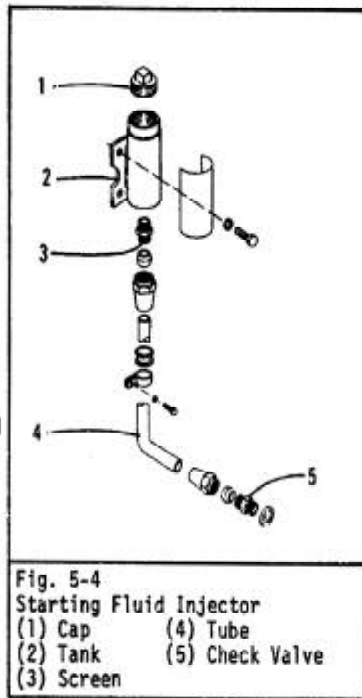

Fig. 5-4
Fluid placed in the starting fluid injector tank (2) Fig. 5-4 is deposited automatically into the combustion chamber through a spring loaded check valve (5)